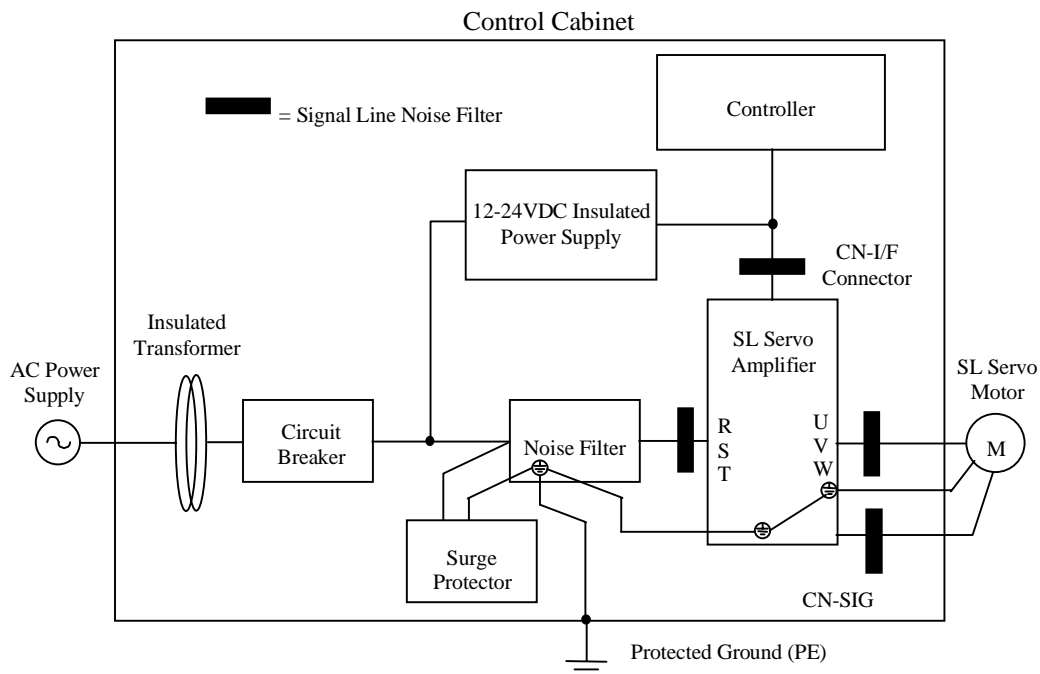

Figure B-1. Peripheral Devices Required for System Compliance
Install an IEC or TUV authorized three-phase circuit protector between the servo amplifier and AC supply as shown in Figure B-1. The rated current requirement differs depending on the model of SL servo amplifier.
For prevention of electric shock, connect the protective earth terminal (⊕) of the servo amplifier with the protective earth (PE) of the control panel as shown in Figure B-1.
To comply with the EMC Directive it is necessary to install noise filters on the main AC supply to the amplifier as shown in Figure B-1. An example of a compliant noise filter is shown in the table below. Equivalent parts from other manufacturers may be substituted.
To comply with the EMC Directive it is necessary to install a surge protector on the supply line of the noise filter as shown in Figure B-1. The same protector can be used on all SL Servo systems.
To comply with the EMC Directive it is necessary to install noise filters on all signal cables connected to the SL Series amplifier as shown in Figure B-1.